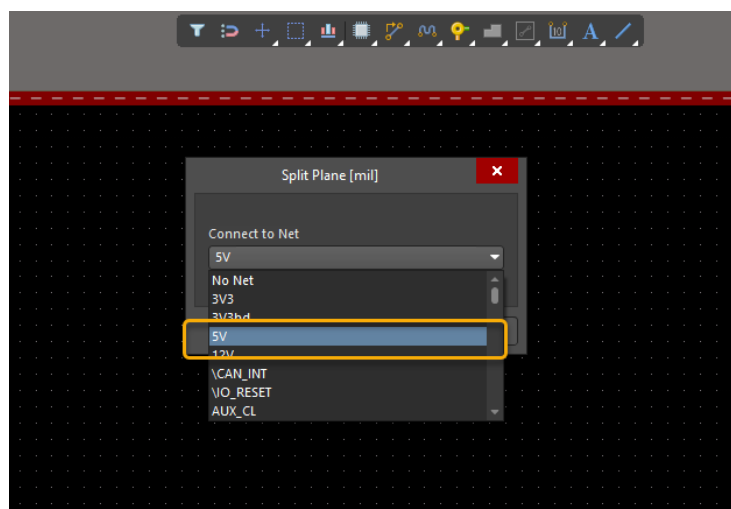

Figure 2. Changing the Power Plane net to 5V
11. Now, click on the **5V** layer from the layer bar and repeat the previous step to assign net 5V to the plane as shown in Figure 2.